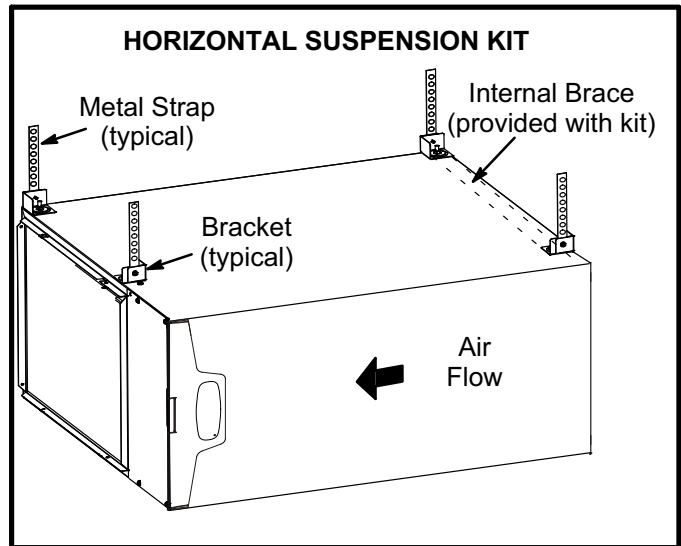
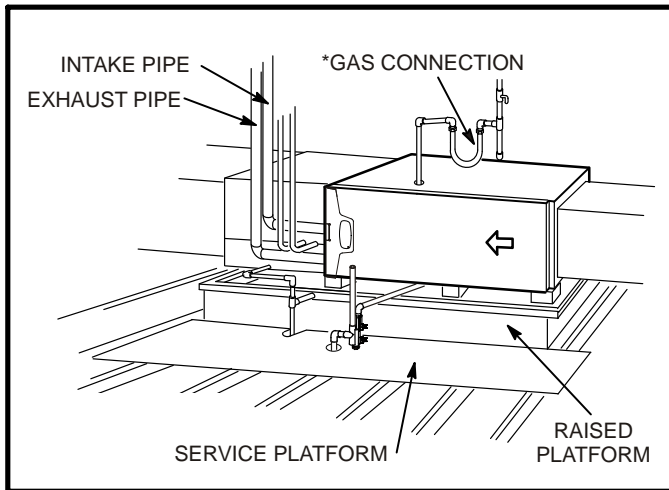

FIGURE 18
FIGURE 19
This furnace may be installed in either an attic or a crawlspace. Either suspend the furnace from roof rafters or floor joists, as shown in figure 18, or install the furnace on a platform, as shown in figure 19. A horizontal suspension kit (51W10) may be ordered from Lennox or use equivalent. **NOTE - Heavy-gauge sheet metal straps may be used to suspend the unit from roof rafters or ceiling joists. When straps are used to suspend the unit in this way, support must be provided for both the ends. The straps must not interfere with the plenum or exhaust piping installation. Cooling coils and supply and return air plenums must be supported separately.**
- 2 - Construct a raised wooden frame and cover frame with a plywood sheet. If unit is installed above finished space, fabricate an auxiliary drain pan to be installed under unit. Set unit in drain pan as shown in figure 19. Leave 8 inches for service clearance below unit for condensate trap.